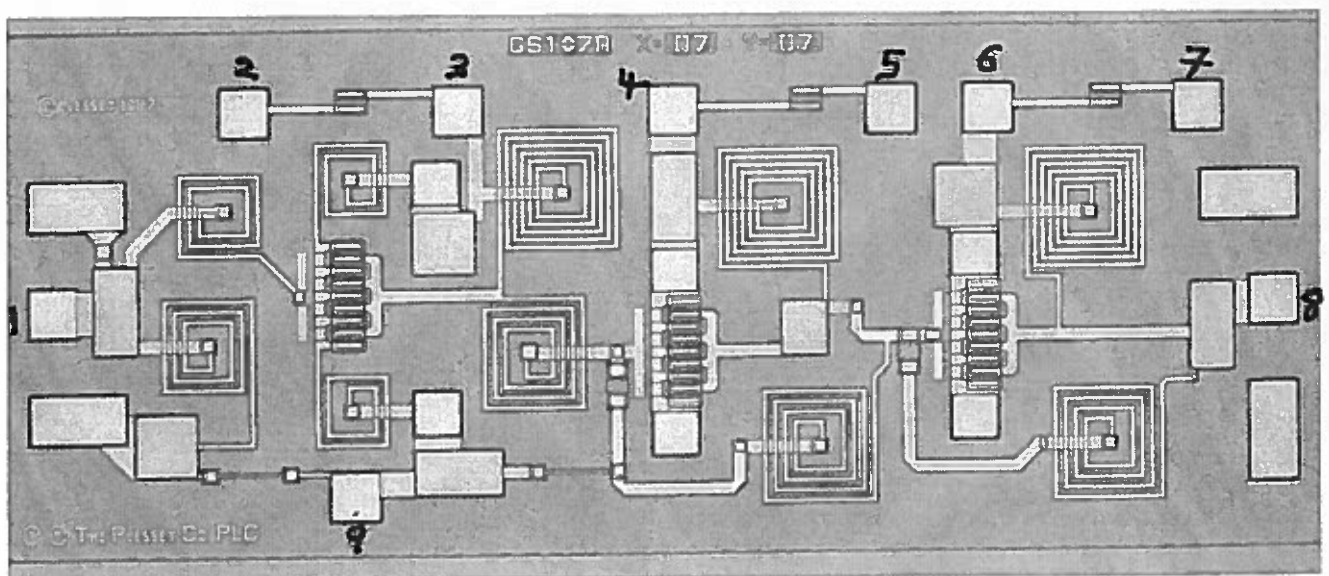

Figure 4.1 Photograph of a $3.5 \times 1.5 \text{ mm}^2$ LNA
4. The photograph in Figure 4.1 is of a MMIC.
- a) Draw the basic equivalent circuit model for the MMIC shown in Figure 4.1, and mark the RF and DC bias ports with the corresponding probe pad numbers shown. Describe the type of amplifier circuit. If you are uncertain about a component then state any assumptions used.